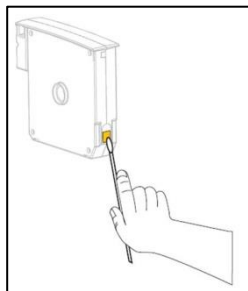

Figure 1
4. Refer to Figure 1. Using the cleaning swab from the Preventative Maintenance Kit, or a swab dipped in isopropyl alcohol/deionized water solution (mixed 90/10), clean the gold smart card contacts on the back of the wristband cartridge. Allow the solution to evaporate before putting the cartridge back in the printer.